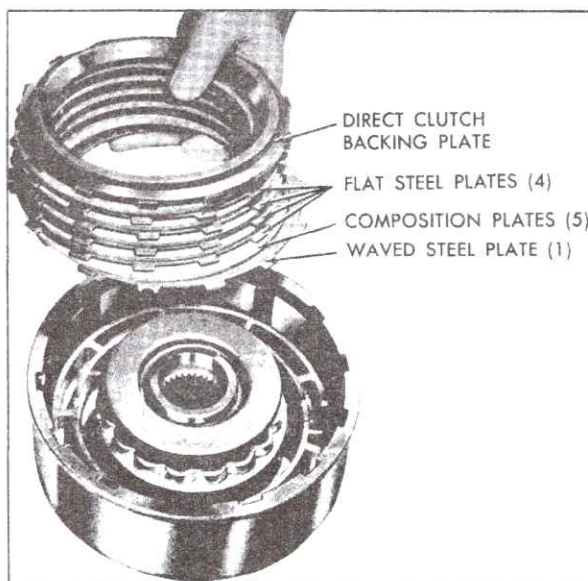

Fig. 7-71 Installing Direct Clutch Plates
7. Lubricate the four flat and one waved U-notched steel and five composition clutch plates with transmission fluid and install clutch plates in direct clutch housing Fig. 7-71. Start with waved steel plate and alternate composition and steel plates.